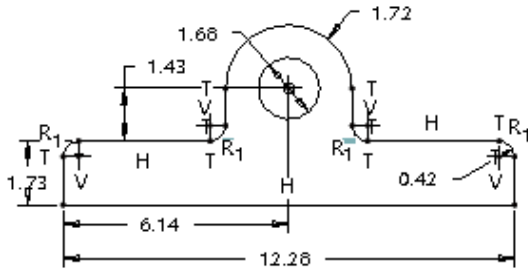

Figure 2-43 Sketch after dimensioning
- d. Dimension the sketch, refer to Figure 2-43.
2. Dimension the sketch, as shown in Figure 2-43.